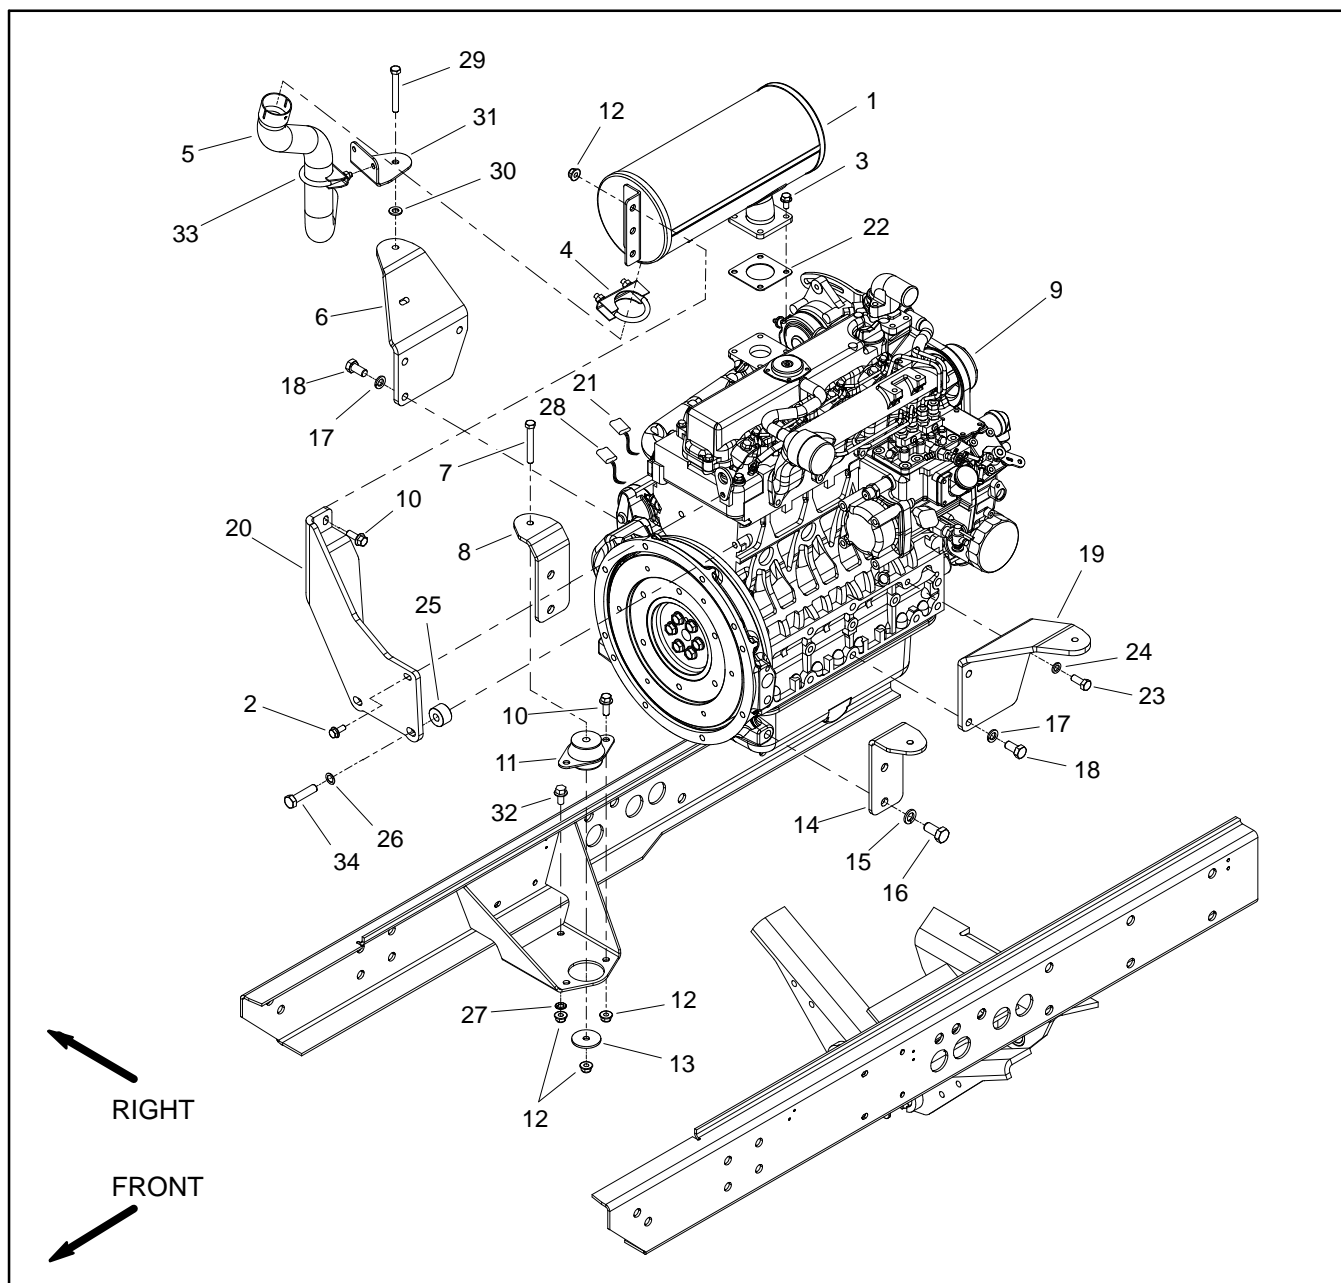

Figure 8
Engine Removal (Fig. 8)
17. If necessary, remove engine mounts from the engine using Figure 8 as a guide.
Engine Installation (Fig. 8)
3. If removed, install engine mounts to the engine using Figure 8 as a guide.